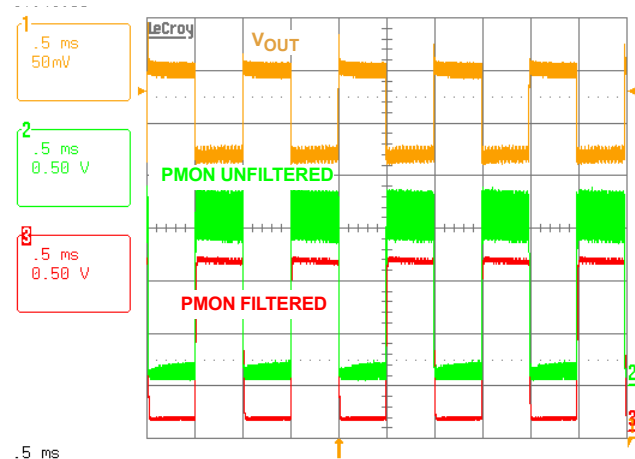

FIGURE 26. VID = 1.15V, LOAD TRANSIENT OF 0A TO 36A WITH INTEL VTT TOOL, 1kHz RATE, 50% DUTY CYCLE, TR = 35
2. The second level of overvoltage protection behaves differently (see Figure 26). If the output exceeds 1.7V, an OV fault is immediately declared, PGOOD is latched low and the low-side MOSFETs are turned on. The low-side MOSFETs will remain on until the output voltage is pulled down below about 0.85V, at which time all MOSFETs are turned off. If the output again rises above 1.7V, the protection process is repeated. This offers the maximum amount of protection against a shorted high-side MOSFET while preventing output ringing below ground. The 1.7V OV is not reset with VR_ON, but requires that VDD be lowered to reset. The 1.7V OV detector is active at all times that the controller is enabled including after one of the other faults occurs so that the processor is protected against high-side MOSFET leakage while the MOSFETs are commanded off.